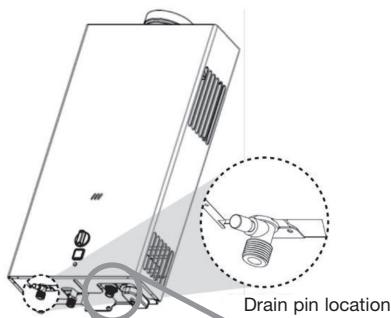

Fig. 13
- Turn drain pin counterclockwise (Fig. 13).